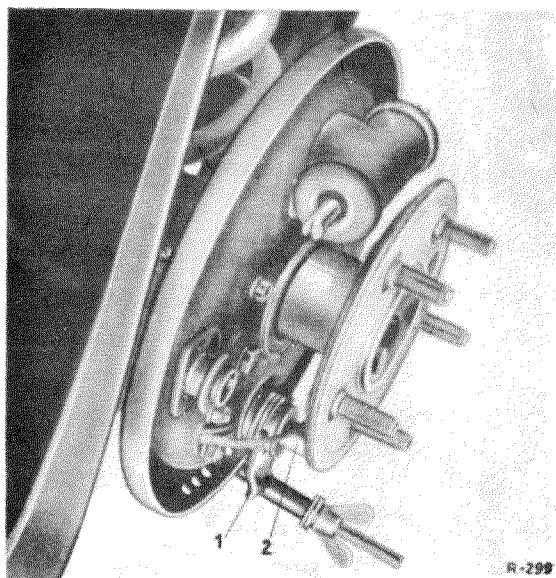

Fig. 42—9/4
14. Coat the anchor pin for the brake shoes with high-viscosity grease. Then install the pressure spring (4) and the washer (5) on the anchor pin (see Fig. 42—9/2) and compress the spring by means of a Spring Clamp 180 589 02 31 (Fig. 42—9/4).